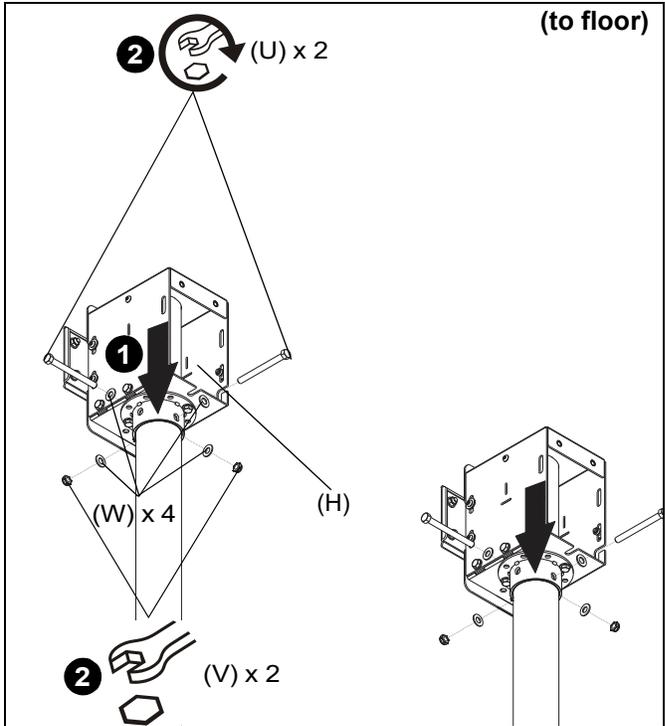
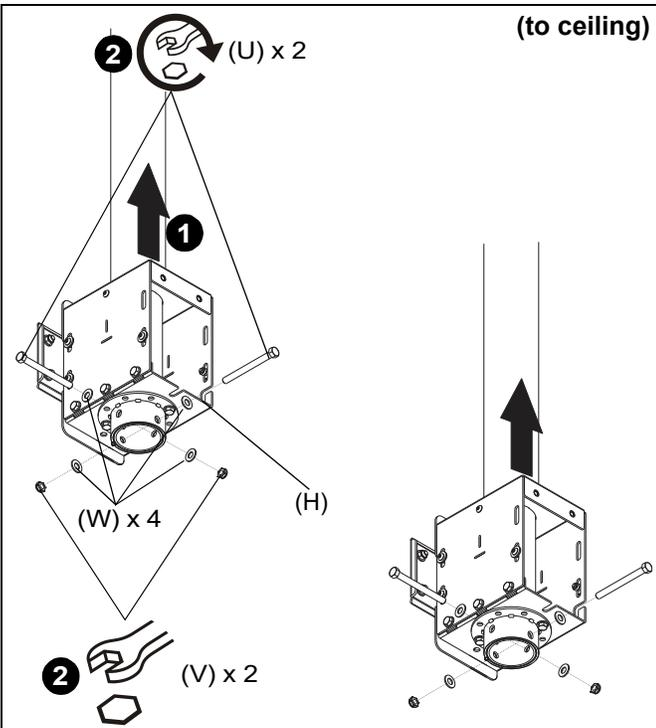

Figure 2
Figure 1
1. Slide mount assemblies (H) onto ODAC Series Floor/ Ceiling Columns. (See Figure 1) or (See Figure 2)
2. Use two 3/8-16 x 4" hex head tapping bolts (U), four 3/8" washers (W) and two 3/8-16 hex nuts (V) to secure each mount assembly (H) to each column. (See Figure 1) or (See Figure 2)